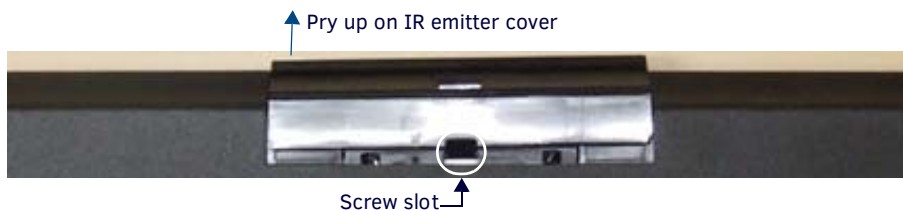

FIG. 118 IR emitter cover removal
2. Place the device face-down on a surface that will not scratch the unit and gently pry up the IR emitter cover. This will usually be easier to do from the left side of the cover (FIG. 118).